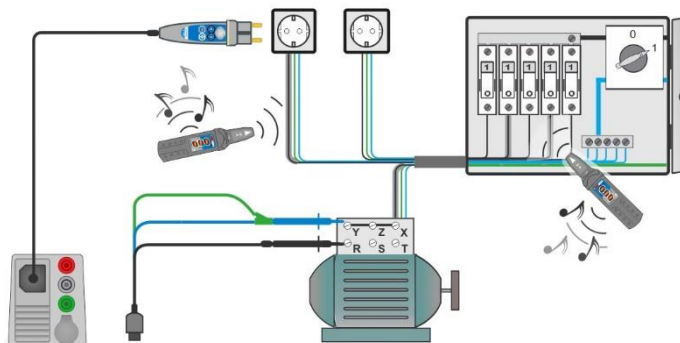
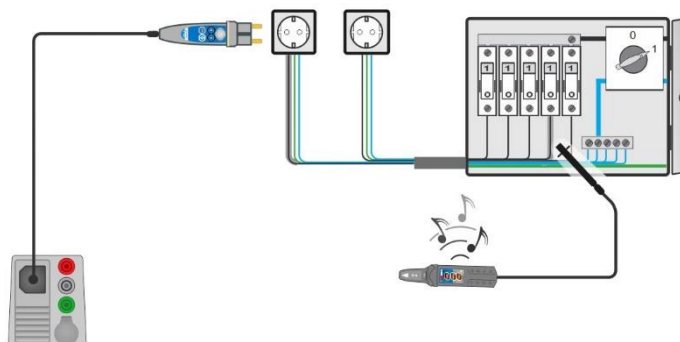

Figure 7.141: Tracing wires under walls and in cabinets
Figure 7.142: Locating individual fuses
- ▶ Connect 3-wire test lead or Plug commander to the tested object (see *Figure 7.141* and *Figure 7.142*).